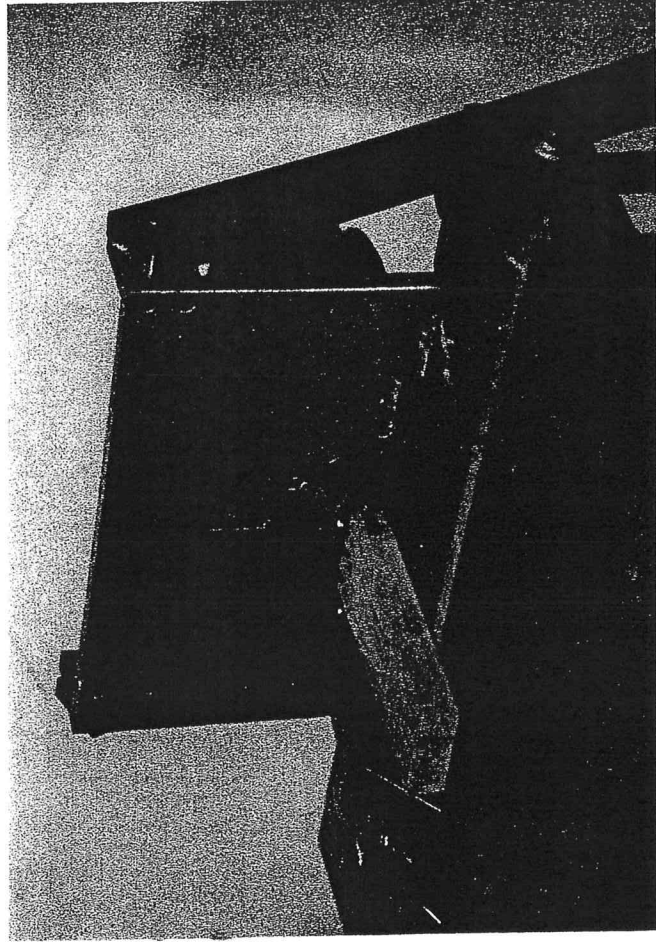

Fig. 14
8. Center the bit to the thickness of workpiece A. Cut an end slot in the piece. (fig. 14)